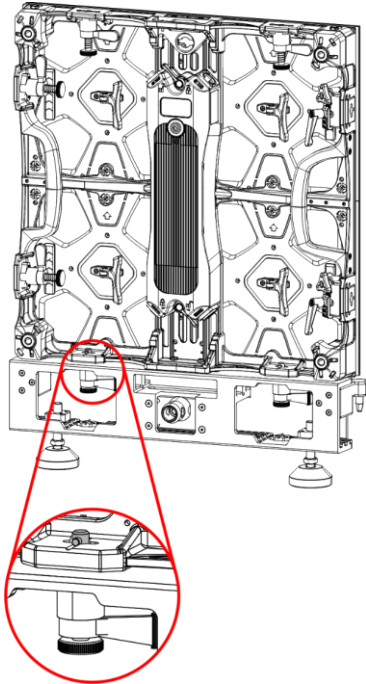

Fig. 31
- 05) Make sure that the **pins (C)** of the left **locking mechanism (06)** on the rigging bar are firmly locked in the **fast-lock opening (11)** on the bottom of the LED screen as shown in Fig. 31.